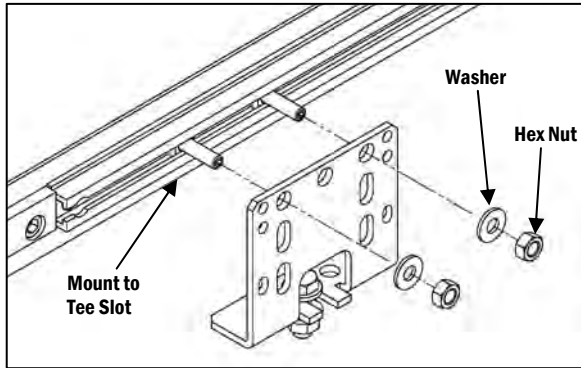

Figure 2
a. For the Tee Slot Mounted version (**Figure 2**), insert the 1/4-20 Square Nuts in the tee slot, and thread the 1/4-20 x 1" Set Screws into the Square Nuts.